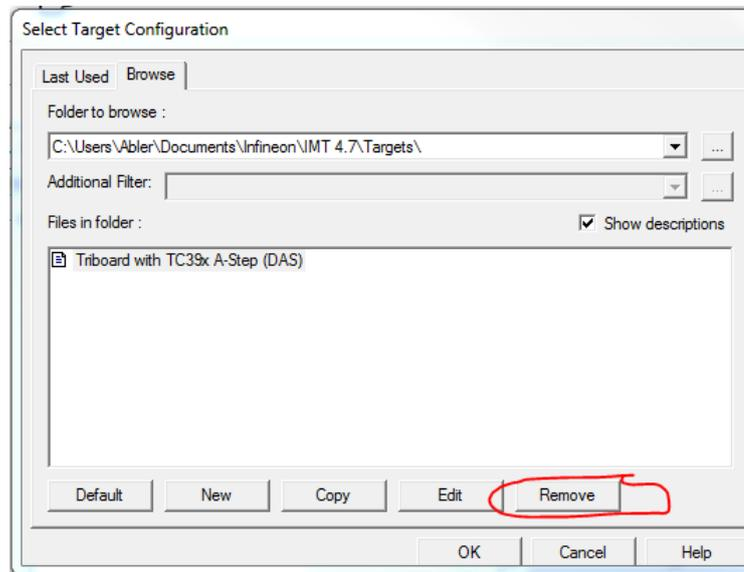

Figure 8: Removing Potentially Incorrect Target Configuration
10. If the user is not sure if the status of the configuration (target) is really correct, to avoid it being accidentally used (then connection fails), it would be the best to remove it and repeat previous steps in order to apply correct target configuration, taking care to select StepA or StepB TriCore (Figure 8):